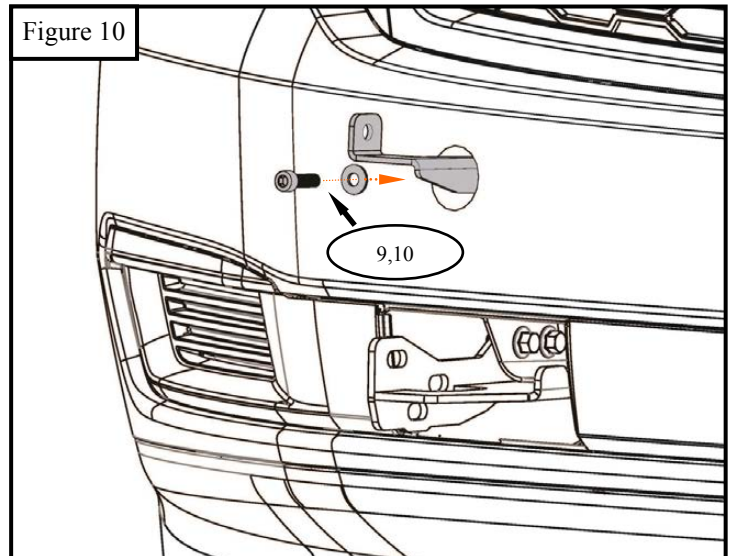

Figure 10
- Loosely attach the Upper Mounting Brackets by using (2) M10 Socket Head Cap Screws (item 9) and (2) M10 Cupped Washers (item 10). (Figure 10)